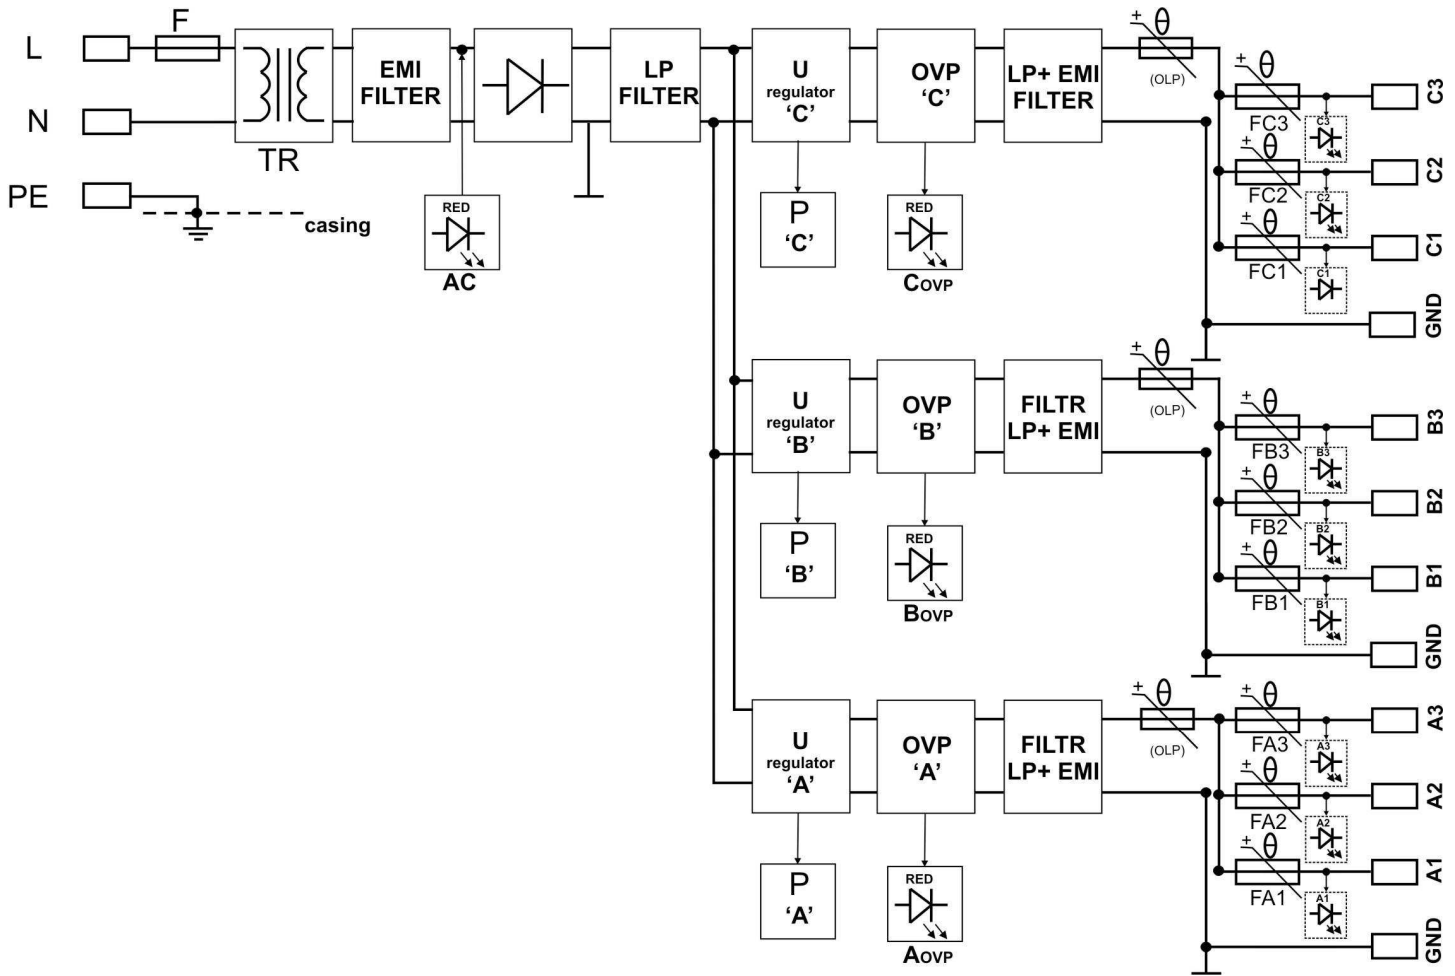

Fig.1. Block diagram of the power-supply unit.
**1.2. Block diagram (fig.1).**